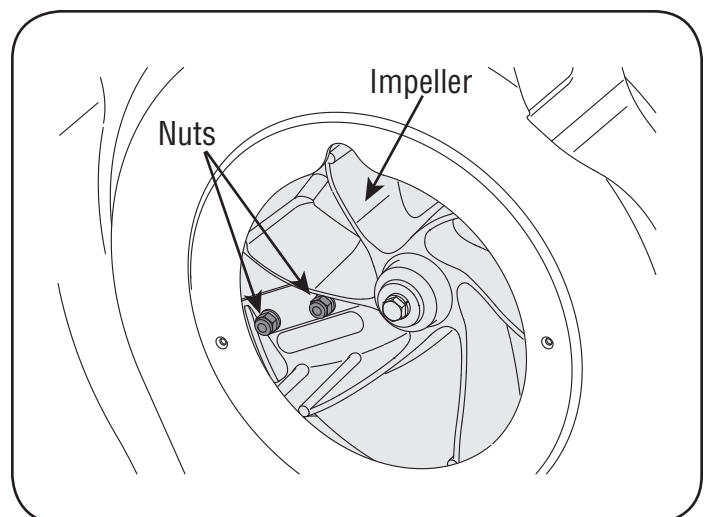

Figure 27
- The nuts on the flat head cap screws can be reached from underneath using a 1/2-inch socket, universal, and extension. See Figure 27.